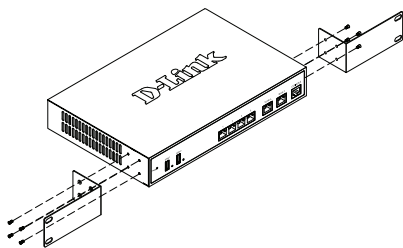

Figure 3. Attach the Rack Mount Brackets
- Attach the mounting brackets to each side of the chassis as shown in Figure 3 and secure them with the screws provided.